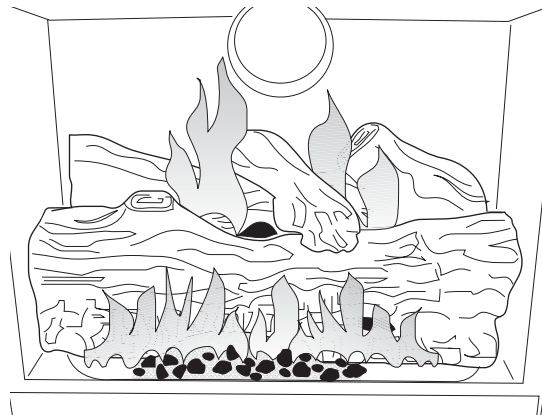

Figure 26. Flame appearance on the "high" setting after approximately 15 to 20 minutes burning.
**3. BURNER ADJUSTMENT:** This stove is equipped with a variable gas control valve that allows easy adjustment of the flame height appearance and heat output. To adjust the flame between the HI and LOW setting, rotate the HI/LOW knob, located in the center of the valve face. **Flame height will adjust approximately 1.0" to 1.5" between the LOW and HIGH settings. See fig. 26.**